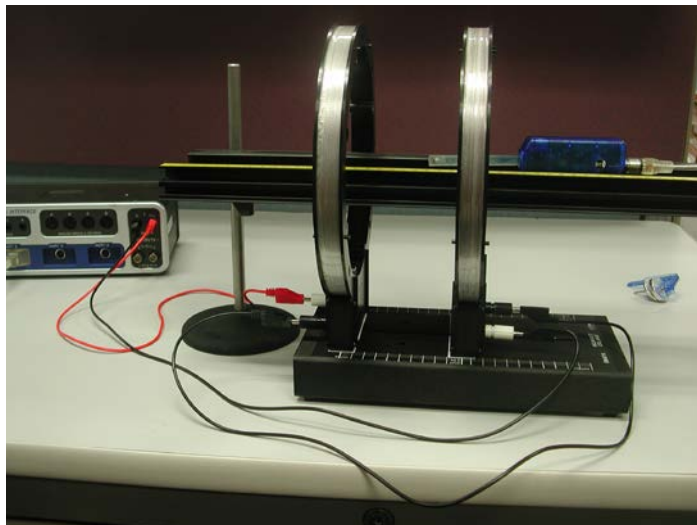

Figure 6: Helmholtz Coil Setup
1. Attach a second coil to the Helmholtz Base at a distance from the other coil equal to the radius of the coil. Note that you cannot just use the white rectangles on the base since it was designed for the 200 turn coils and the 500 turn coils have a slightly larger diameter. Make sure the coils are parallel to each other (the white rectangles do help). See Figure 6. The left coil is about 15 cm from the end of the track. Align coils & track as before.
2. Connect the second coil in series with the first coil. See Figures 6 & 7. Note that the connectors on the coil all face outward and that the black jumper cable between the coils goes from black connector to black connector. The other black cable goes from the white connector to the black connector on the 850.